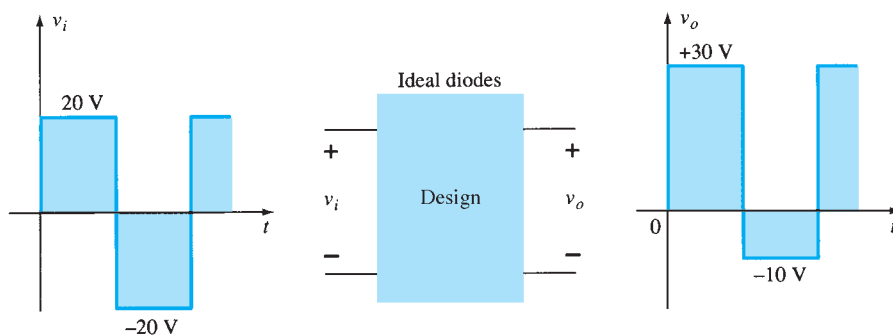

FIG. 2.184
*40. Design a clamper to perform the function indicated in Fig. 2.184.